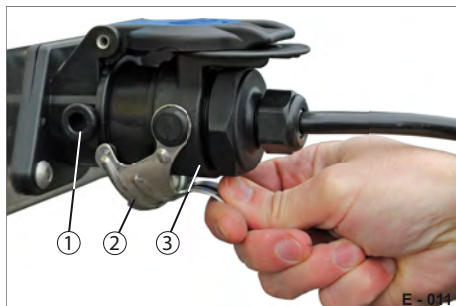
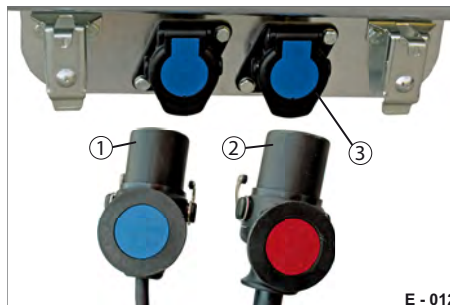

Fig. 9 Unlocking the plug
Fig. 10 Park position on tube drawbar
- ▶ Pull on the cliplock (Fig. 9/2).
- ▶ Pull the plug (Fig. 9/3) out of the parking socket (Fig. 10/3) - do not pull on the cable.
- ▶ Connect the electrical system plug (Fig. 10/2) to the towing vehicle.